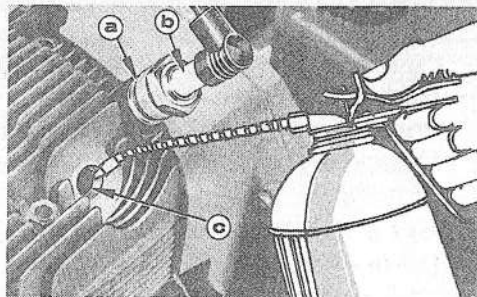

Figure 78
**S6 CYLINDER OILING:** If the cylinders are not lubricated, rust may be formed inside the engine during storage. See Fig. 78.